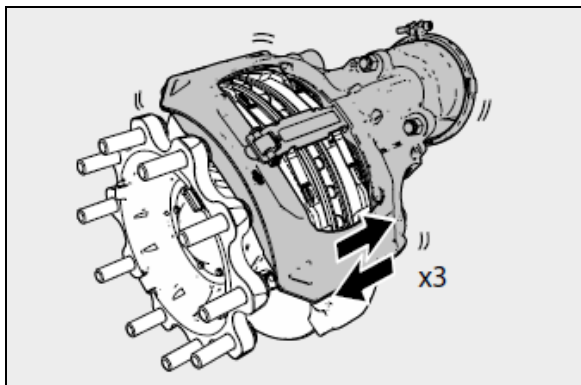

FIGURE 32: PUSH CALIPER THREE TIMES IN AXIAL DIRECTION
7. Pull off the adjuster cap (37) using the tag, taking care not to lose the shear adapter (61) (see Figure 32).